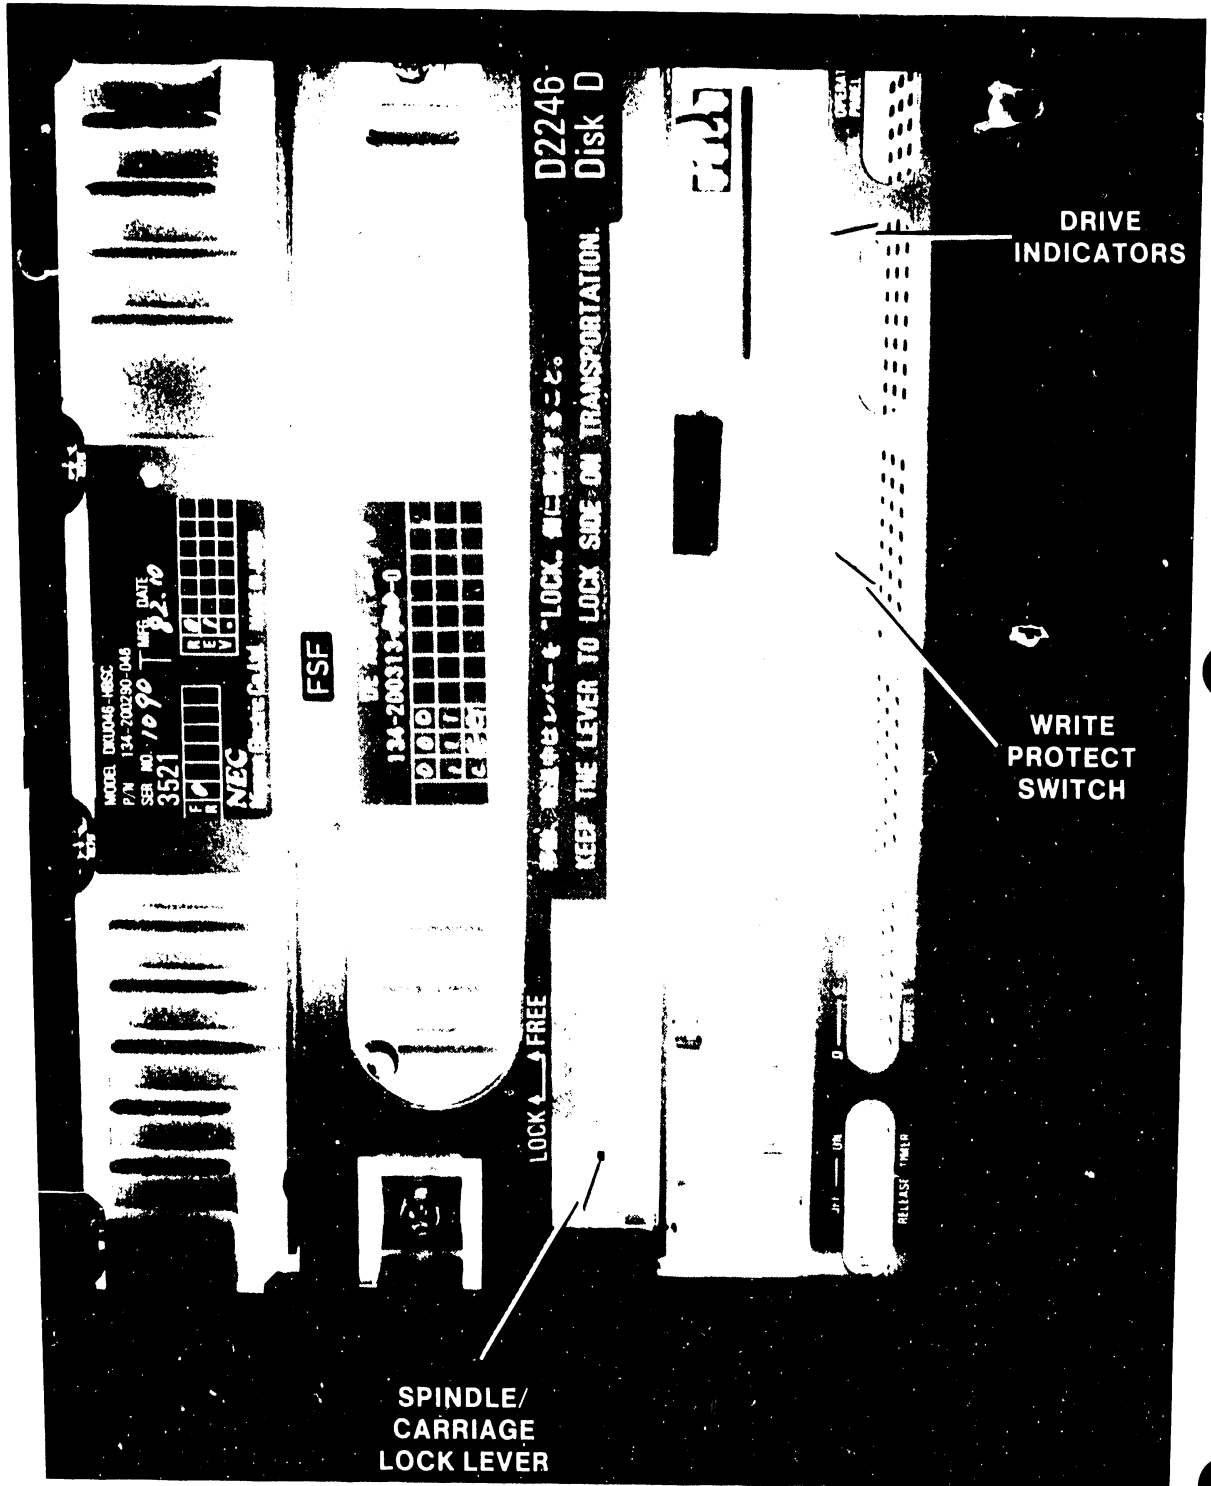

Figure C-18. Front View of NEC Drive
- i. Unlock the spindle and carriage from their shipping position by moving the red Spindle/Carriage Lock Lever on the front of the drive (figure C-18) to the right, push it up as far as it will go, and then move it to the left into the Free position.
- c. Make sure the drive has stopped turning and then lock the spindle and carriage into their shipping position by moving the red Spindle/Carriage Lock Lever on the front of the drive (figure C-18) to the right, push it down as far as it will go, and then move it to the left into the Lock position.